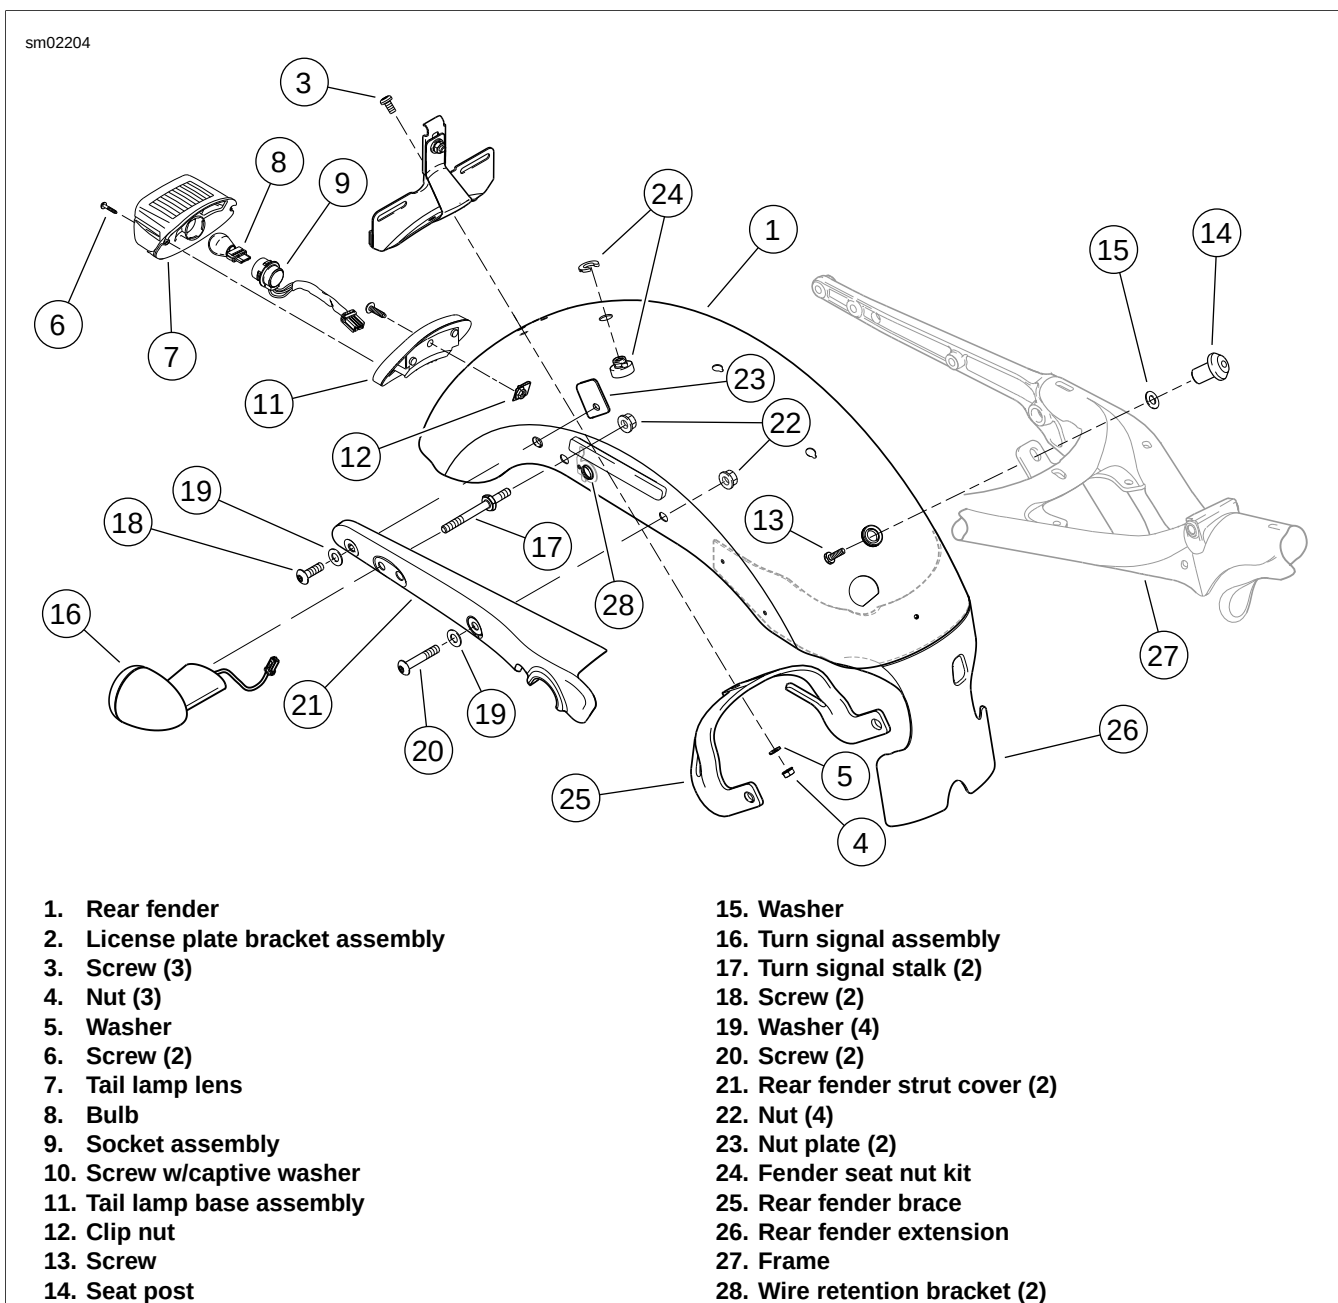
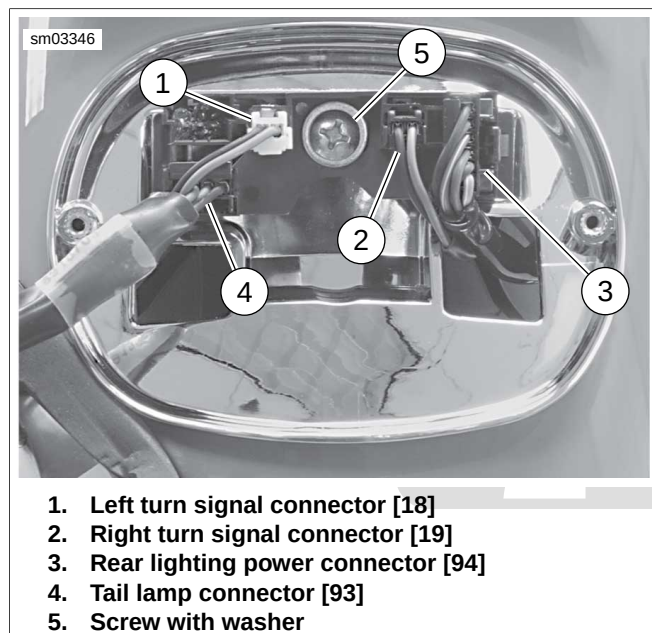
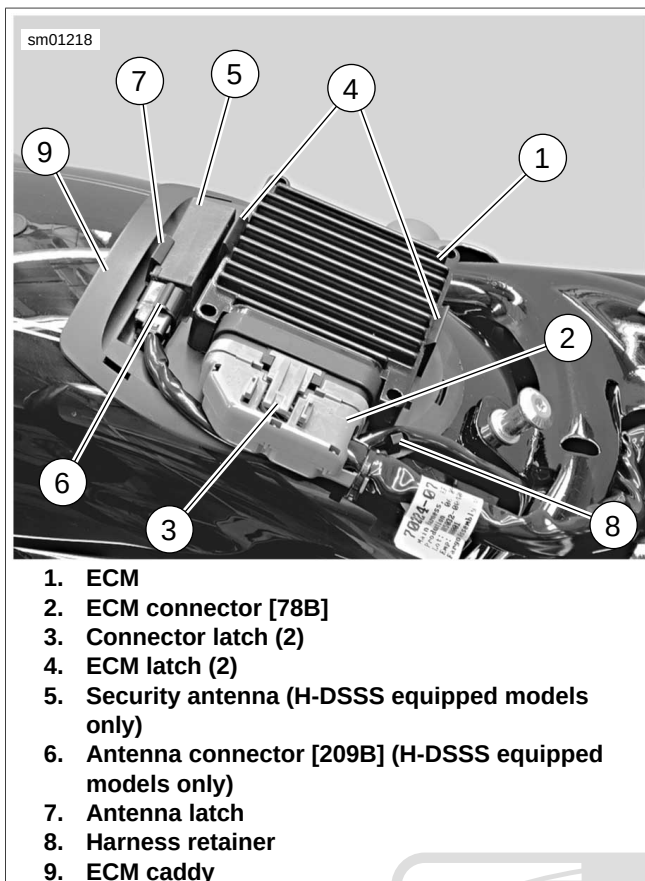
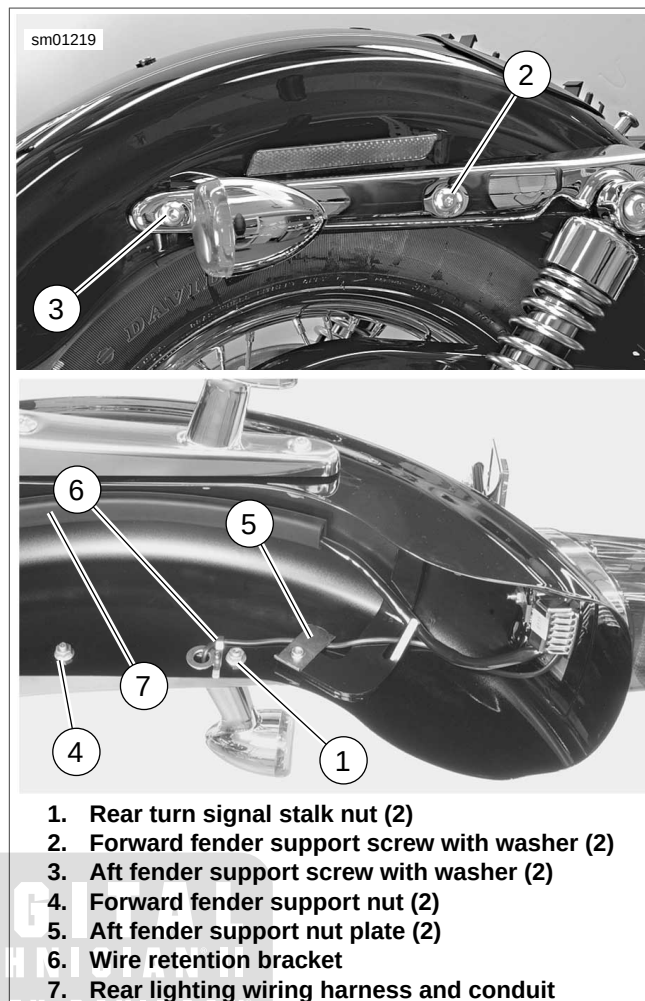

Figure 2-232. Rear Fender Assembly
Figure 2-233. Tail Lamp Housing
Figure 2-236. Security Antenna (H-DSSS only) and ECM Removal/Installation
Figure 2-237. Rear Fender, Strut Cover and Turn Signal Lamp Assembly
3. See Figure 2-232. Remove two screws (6) and tail lamp lens (7) from tail lamp base assembly (11). Twist tail lamp bulb socket (9) 1/4 turn counterclockwise and remove from lens.
4. See Figure 2-233. Note location of electrical connectors on tail lamp circuit board. Depress latches on turn signal connectors (1, 2) and tail lamp connector (4). Unplug connectors from rear lighting circuit board.
6. See Figure 2-236. Depress latch (3) and unplug ECM connector [78B] (2). Place ECM harness out of the way.
7. Gently bend back ECM latches (4) and lift ECM off locating pins on ECM caddy (9).
8. **H-DSSS equipped models:** Gently bend back antenna latch (7) and lift security antenna (5) out of recess. Release antenna harness from harness retainer (8) in ECM caddy. Place antenna and harness out of the way.
9. See Figure 2-237. Remove rear turn signal stalk nuts (1) from inside rear fender on both sides.
10. Remove forward fender support screw with washer (2) and nut (4), and aft fender support screw with washer (3) and nut plate (5) on both sides.
11. Pull turn signal wiring harnesses through holes in tail lamp base and rear fender. Disengage turn signal wiring harnesses from wire retention brackets (6).
12. See Figure 2-232. Remove rear fender strut covers (21) with attached turn signal assemblies (16) from rear fender struts.
13. Remove screw (13), seat post (14) and flat washer (15) to detach top of rear fender (1) from frame cross member tab.
15. See Figure 2-233. Depress latch on rear lighting power connector [94] (3) and unplug connector from rear lighting circuit board.
16. Remove screw with washer (5) and lift tail/brake lamp base from fender.
1. See Figure 2-232. Install license plate assembly on **new** rear fender:
- a. Remove three screws (3), three nuts (4) and one washer (5) securing license plate bracket assembly (2) and rear fender brace (25) to old fender (1).
2. Carefully drill out pop rivets securing rear fender extension (26) to old fender with a 1/4-in diameter drill bit. Rivet rear fender extension to **new** fender.
3. Carefully drill out pop rivets securing wire retention brackets (28) to old fender with a 1/4-in diameter drill bit. Rivet brackets to **new** fender.
4. Remove fender seat nut kit (24) from old fender and install on **new** fender.
9. See Figure 2-232. Secure front of fender with screw (13), washer (15) and seat post (14). Finger-tighten screw only, at this time.
11. Remove screws from right side of fender that were temporarily installed in step 8. Install right side rear fender strut cover (21) with attached turn signal assembly to fender strut. Push turn signal wiring harness through appropriate hole in strut and fender. Install nut (22) onto turn signal stalk (17) from inside fender. Finger-tighten only at this time.
12. Secure fender to strut with screw (20), washer (19) and nut (22) in forward mounting hole. Install screw (18), washer (19) and nut plate (23) in aft mounting hole. Finger-tighten screws only at this time.
- a. Tighten screw (13) and seat post (14) to 96-156 **in-lbs** (10.9-17.6 Nm).
15. Install tail lamp base (11) to fender with screw (10) and clip nut (12). Tighten screw to 45-48 **in-lbs** (5.1-5.4 Nm).
16. See Figure 2-233. Push 6-pin Amp connector [94] (3) and left [18] (1) and right [19] (2) turn signal connectors through access holes in tail lamp base and connect as shown.
17. See Figure 2-236. Snap ECM caddy (9) into place in top of fender.
18. **H-DSSS equipped models:** Place security antenna (5) into recess in ECM caddy with flat side of antenna facing up and connector (6) facing right side of vehicle. Press down gently on antenna until it snaps in place. Route harness around right side of caddy and through harness retainer (8).
19. Lower ECM (1) onto locating pins in ECM caddy with ECM connector [78A] facing right side of vehicle. Press down gently on ECM until it snaps in place. **H-DSSS equipped models:** Make sure antenna harness is not pinched underneath ECM.
20. Plug ECM connector [78B] (2) into ECM.
21. See Figure 2-233. Insert tail lamp connector [93] (4) in tail lamp base socket as shown. See Figure 2-232. Screw tail lamp socket assembly (9) into lens (7). Attach tail lamp lens (7) to base (11) with two screws (6).